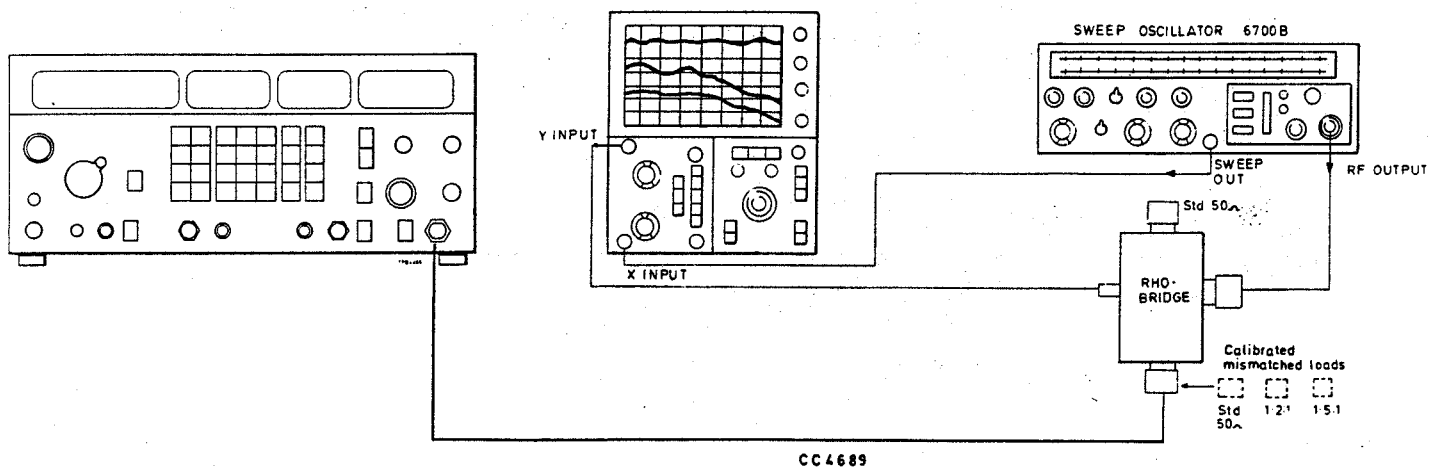

Fig. 12 Test gear arrangement for checking v.s.w.r.
34. The impedance measurement may be carried out over almost all the frequency range of the instrument. Connect the test equipment as shown in Fig. 12 below.